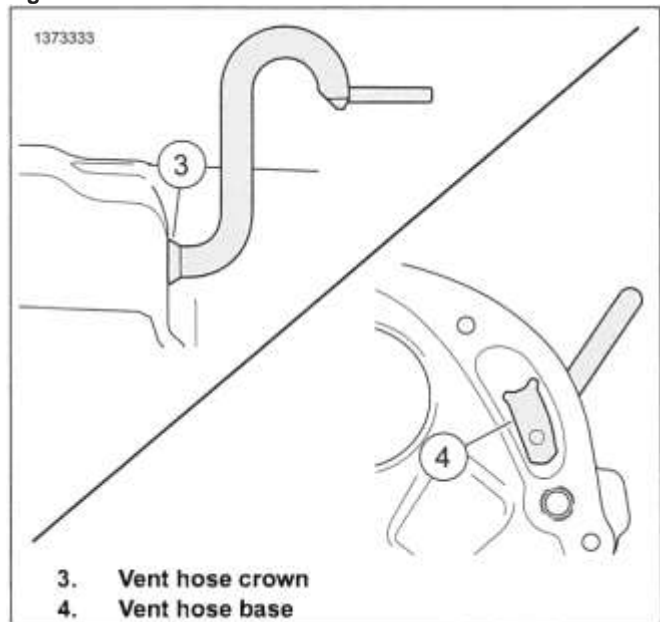

Figure 5-35. Vent Hose Installed
1. See Figure 5-35. Cut at vent hose crown (3) and discard.
- a. Route vent hose (2) through vent hole (1).
- b. See Figure 5-35. Align base of vent hose (4) in case pocket.
- c. Pull vent hose crown (3) through primary case.